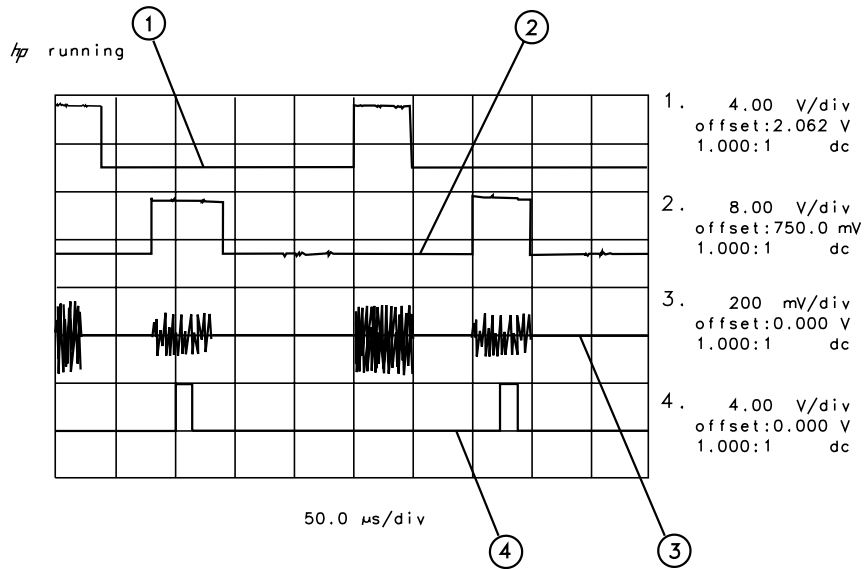

Figure 60 Placing the Gate Output During the Second Signal
- 9 To view the second signal, change the gate delay so that the gate output is under the second signal. Since the second signal had a signal delay of approximately $85 \mu\text{s}$, we set the gate delay to $85 \mu\text{s}$ plus the pulse width/2, or $110 \mu\text{s}$. Press **(SWEEP)**, **Gate Control**, **GATE DELAY** 110 **(μs)** to set the gate delay to $110 \mu\text{s}$. Using an oscilloscope can be helpful in placing the gate output during the pulsed signal. See Figure 60 on page 134.
Item	Description of Items in Figure 60